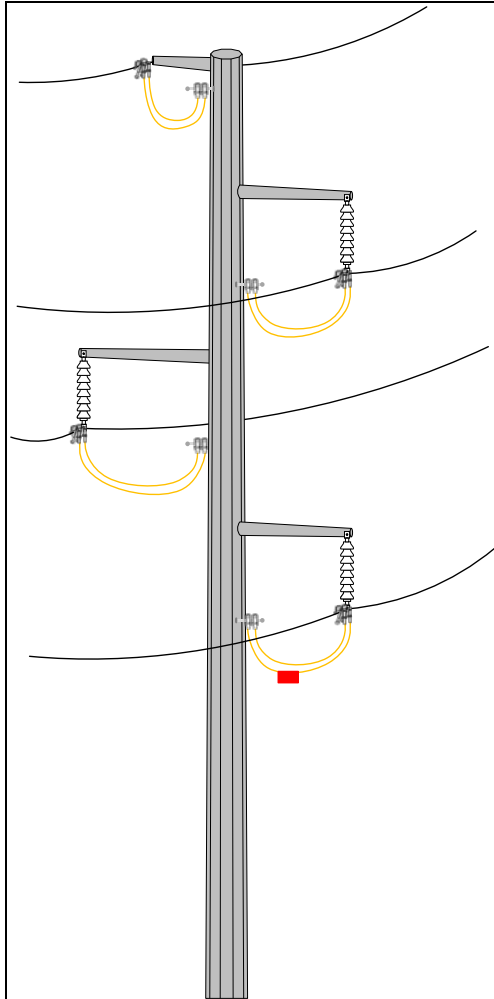

Figure 1 – Multiple Grounds Attach to Steel Pole
- 6.3.3 Assembled using uniform components (same manufacturer, type, rating, etc.). Refer to Figure 1.
- 8.9 When installing a master ground on a steel structure connect a cable assembly from the steel structure below the work area to all three phases and the static wire. Refer to Figure 1.